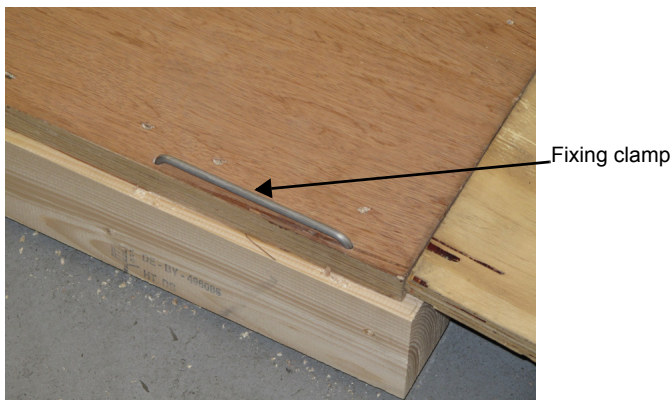

Fig. 13-5 Fixing clamp hooked up in the drill holes on the pallet
- Hook up the fixing clamps into the drill holes on the pallet provided for that purpose (→ *Fig. 13-5*).